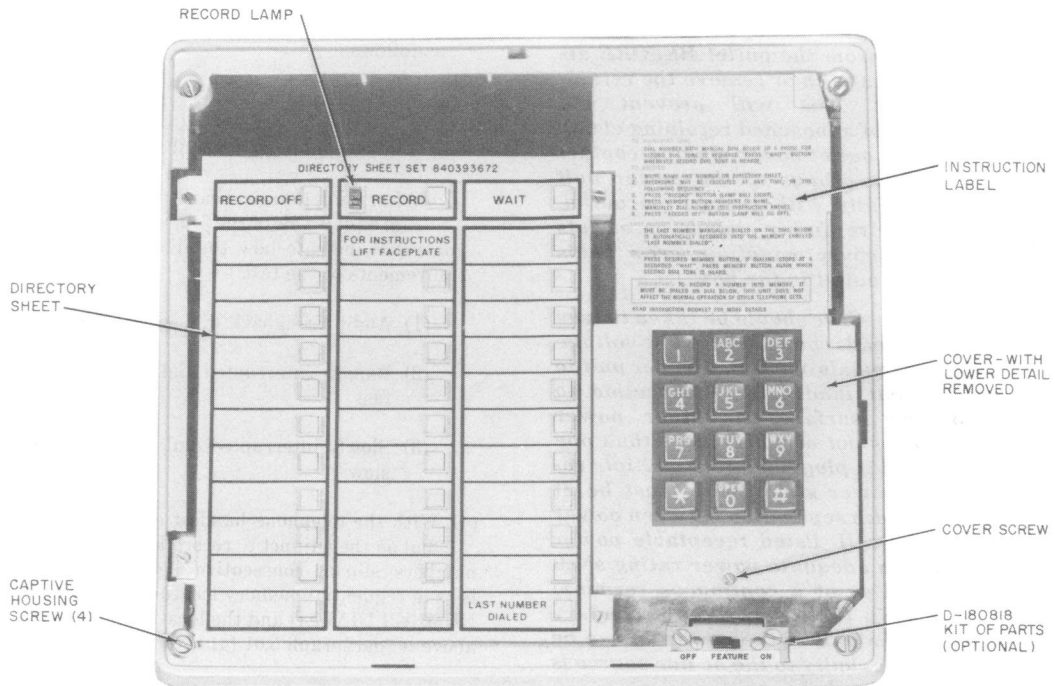

Fig. 2—2870B1M Dial, Faceplate Removed
**Note 3:** Color suffix as follows: Teak Woodgrain (108) and Walnut Woodgrain (109). B2-type same as B1-type faceplate except Woodgrain runs in the opposite direction.♦
**2.09** Operating features (Fig. 2) are as follows.
**3.05** Directory sheets (Fig. 2) are held in place by the faceplate. Additional sheets are available in directory sheet set, 840393672.